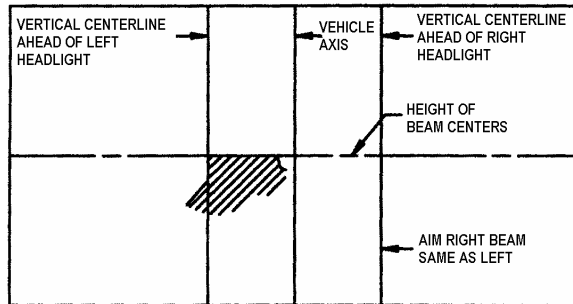

FIGURE 48: HIGH-INTENSITY ZONE (SHADED AREA) OF A PROPERLY AIMED LOWER BEAM ON THE AIMING SCREEN 7.6 M (25 FT) IN FRONT OF VEHICLE 06504
6. Low beam headlights are aimed so that the top edge (the cutoff) of the high-intensity zone is at the vertical location as per Table 1 and the left edge of the high-intensity zone is at the vertical centerline of the headlight (Figure 48).